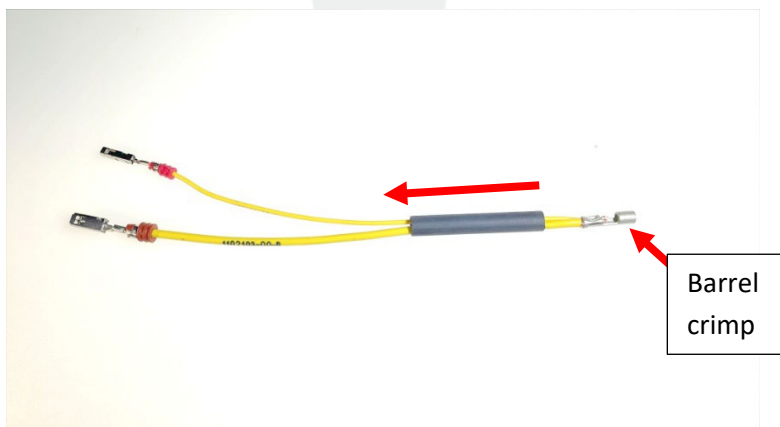

Figure 15
16. Slide the shrink tubing over both wires of the jumper, to the middle of the jumper (Figure 15).